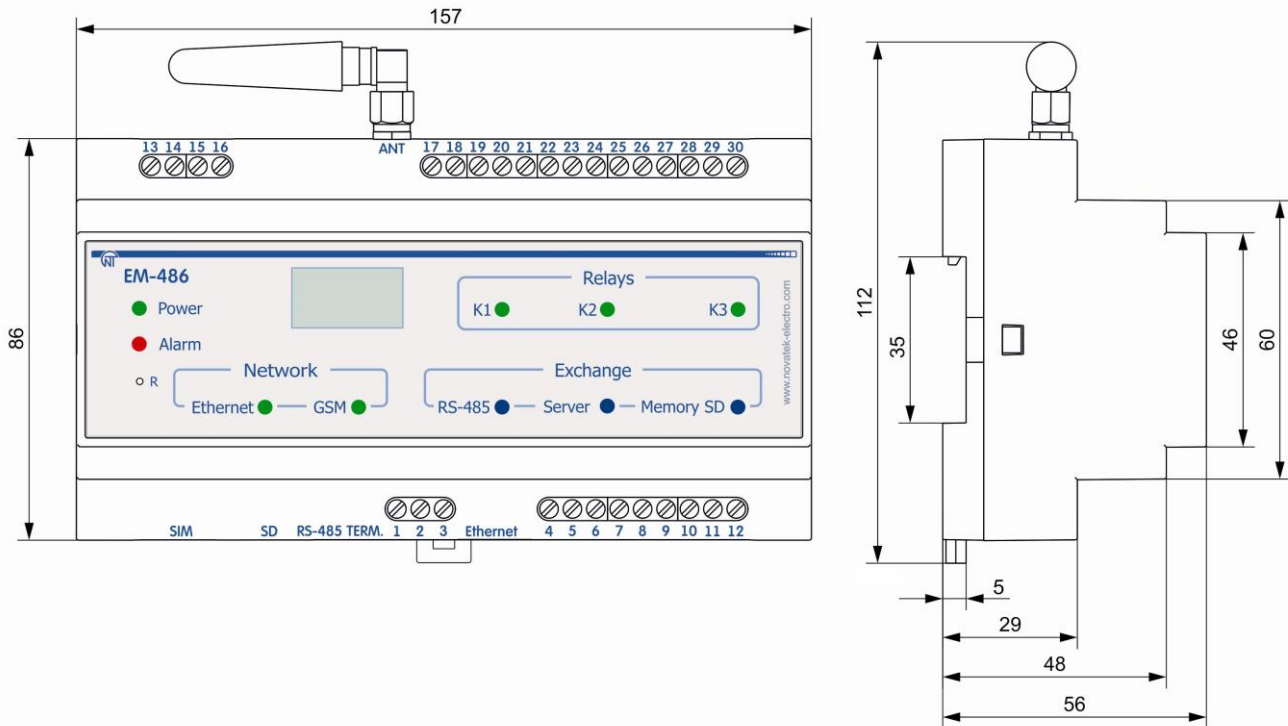

Figure 1.1 – Overall dimensions of the unit
1.2.1 The unit drawing, together with the overall and setting dimensions, is provided in Figure 1.1.